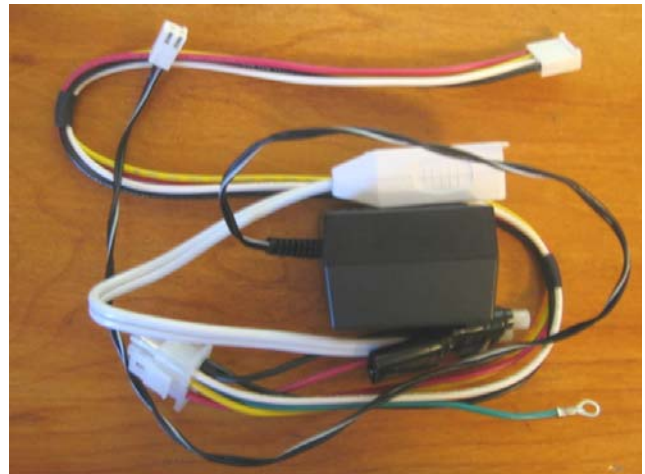

Figure 3.2.8
3. The cable assembly includes a harness and a power supply as shown in figure 3.2.8. Connect the large 6-pin connector (figure 3.2.8) to its mating connector inside the meter case. Secure the ring lug of the green ground wire to the meter case with a bolt